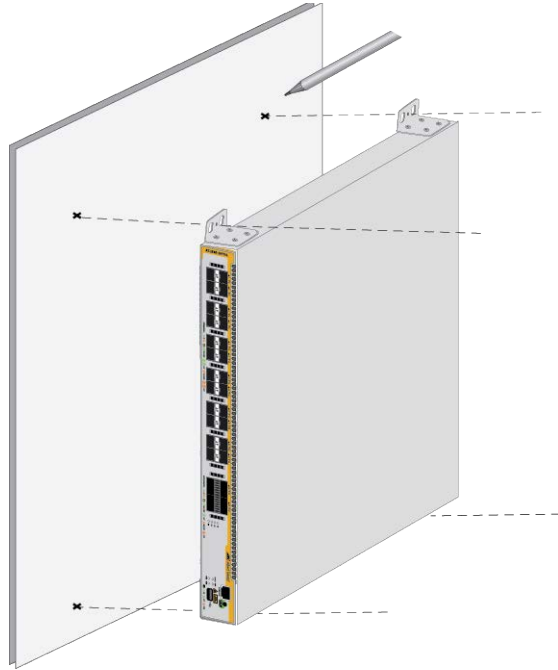

Figure 21. Marking the Holes on the Wall
6. Have two people hold the switch at the wall location, mark the holes with a pencil as shown in Figure 21.